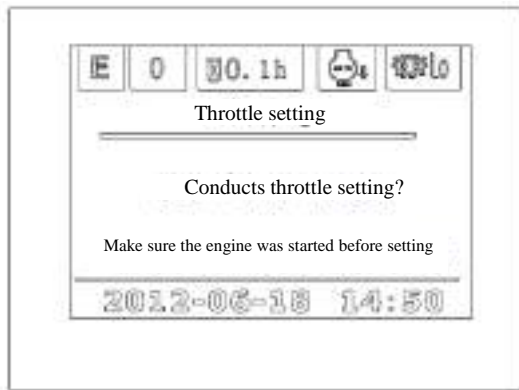

Figure3-55 Confirm whether to enter the setting interface
- a) Press OK to confirm whether entering the throttle setting, the interface is shown in Figure 3-55.